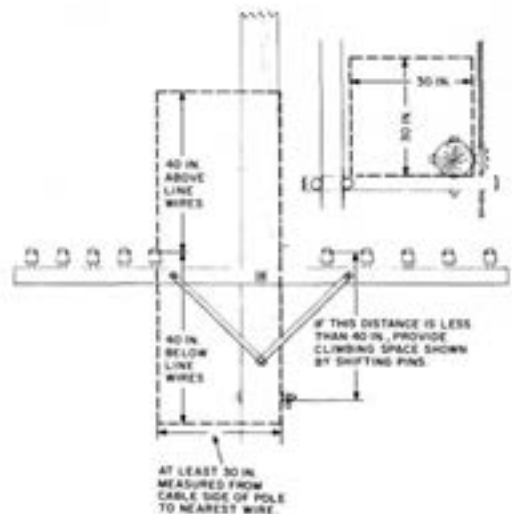

Fig. 6—Respacings Pins for Climbing Space
- 3.07** The full width of climbing space shall be provided past longitudinal runs of cables, drop wires, etc., and shall be measured from the longitudinal run concerned. Where telephone cable is less than 40 inches from telephone wires on jointly used poles, respace pins to provide the 30-inch climbing space (Fig. 6).